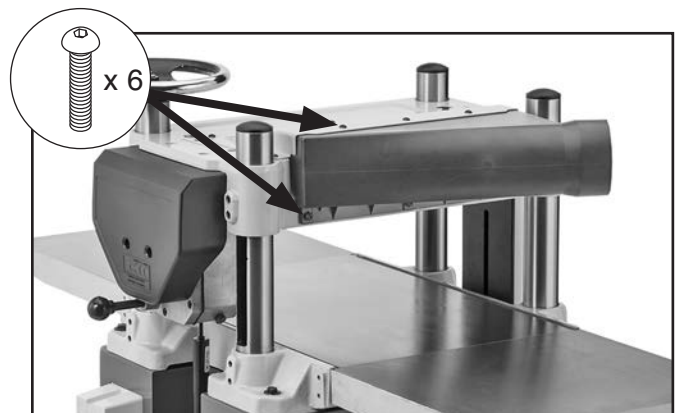

Figure 12. Dust port installed.
8. Attach dust port to planer with (6) M6-1 x 12 button head cap screws (see **Figure 12**).